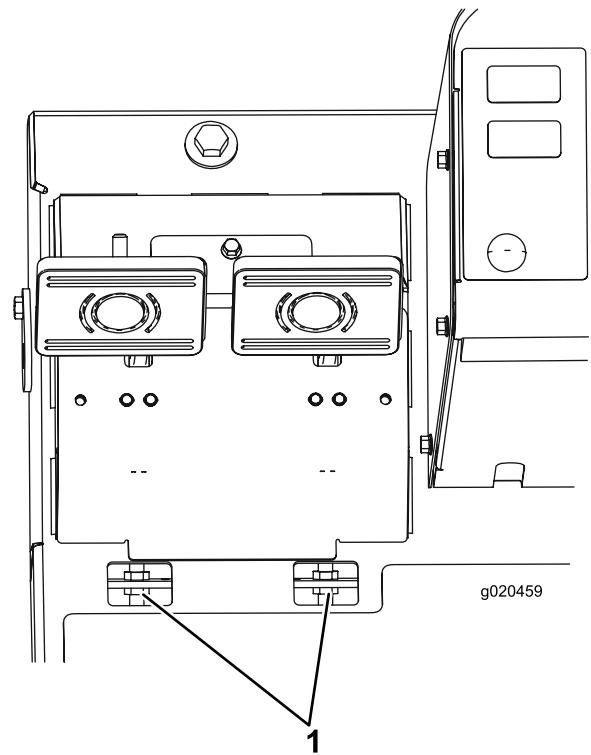

Figure 99
- B. Loosen the front nut on the threaded end of the brake cable (Figure 99).